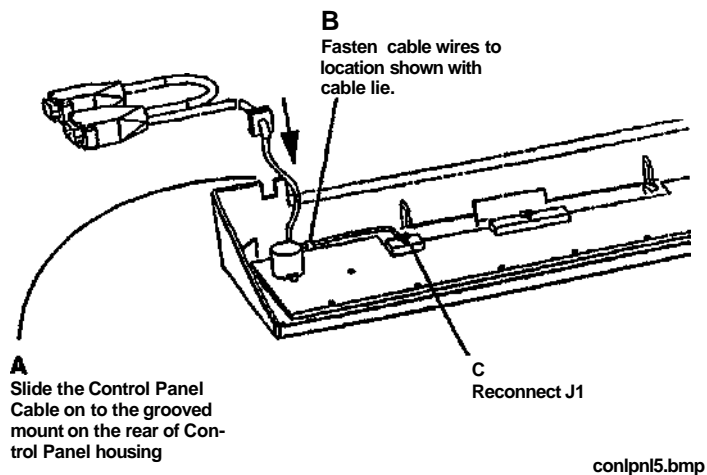

Figure 3 Replacement of the Control Panel cable
2. (Figure 3): Install the Control Panel Cable removed earlier.